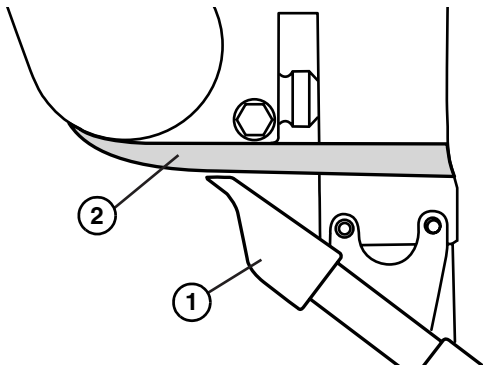

Figure 35
Apply minimal pressure between the scraper (Figure 35, item 1) and the belt (Figure 35, item 2).